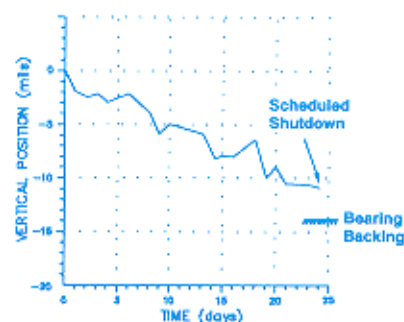

Figure 2
- Excessive bearing clearance or wear, for example, bearing babbitt erosion due to electrostatic discharge (Figure 2).